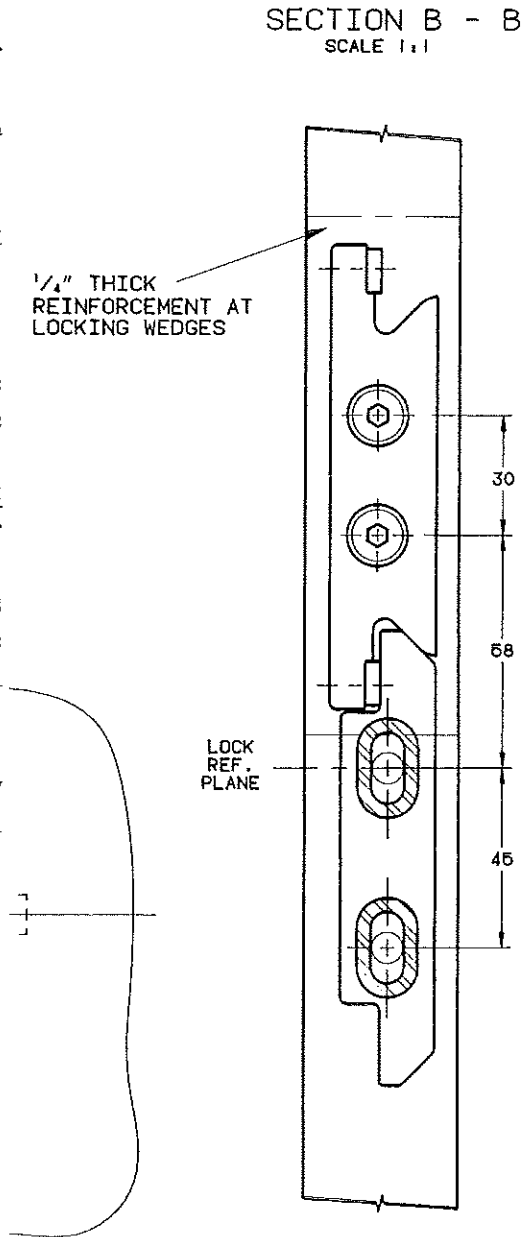

Figure 20
1. Locate mounting holes for portal locks at the position shown (*Figure 20*). Lock Reference Plane dimensions are on the Installation Print.